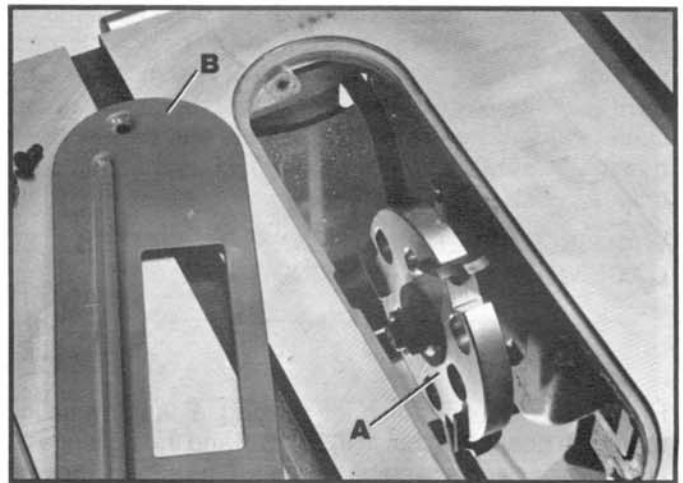

Fig. 36
The moulding cutterhead (A) Fig. 36, is assembled to the saw arbor in the same manner as the saw blade. The guard, splitter and anti-kickback finger assembly cannot be used when moulding and must be removed from the saw. In place of the guard, auxiliary jigs or fixtures and push sticks and featherboards should be used. Also, the accessory moulding cutterhead table insert (B) Fig. 36, must be used in place of the standard table insert.